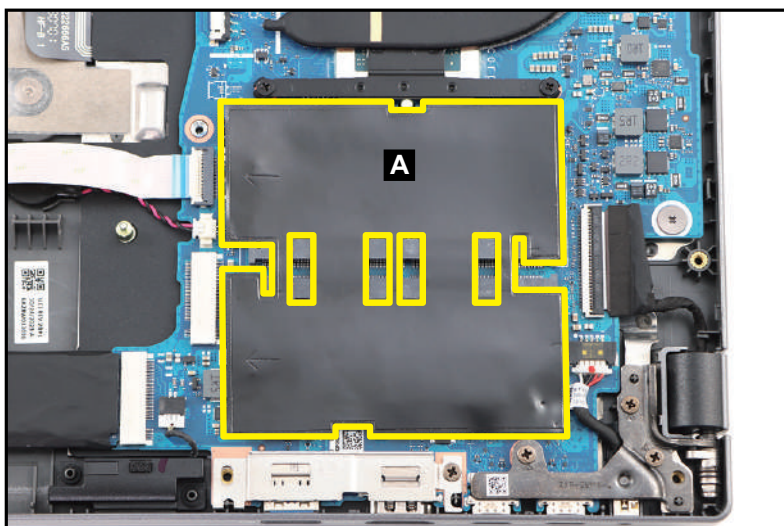

Figure 3-27. DIMM Module Removal
1. Detach the absorber with mylar (A) covering the DIMM modules (Figure 3-27).